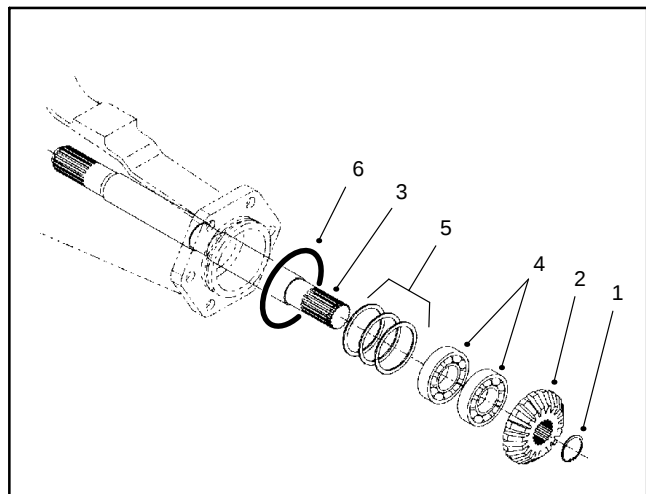

Figure 74
3. Remove the retaining ring and bevel gear (Fig 74).